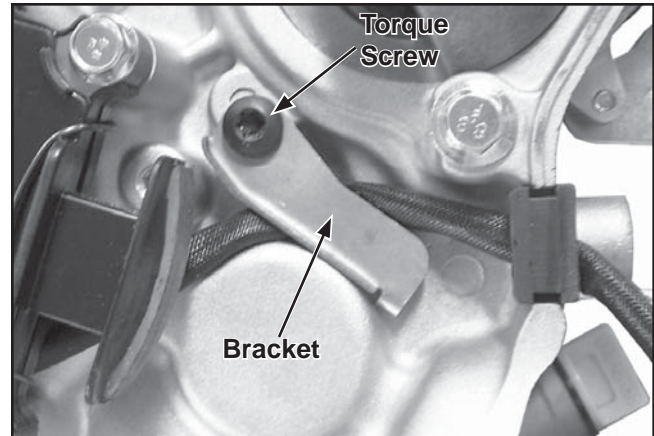

Figure 11-34. Install Bracket and Torque Screw.
4. Position the bracket over the stator leads and install and torque the screw to **10 N·m (89 in. lb.)**. See Figure 11-34.